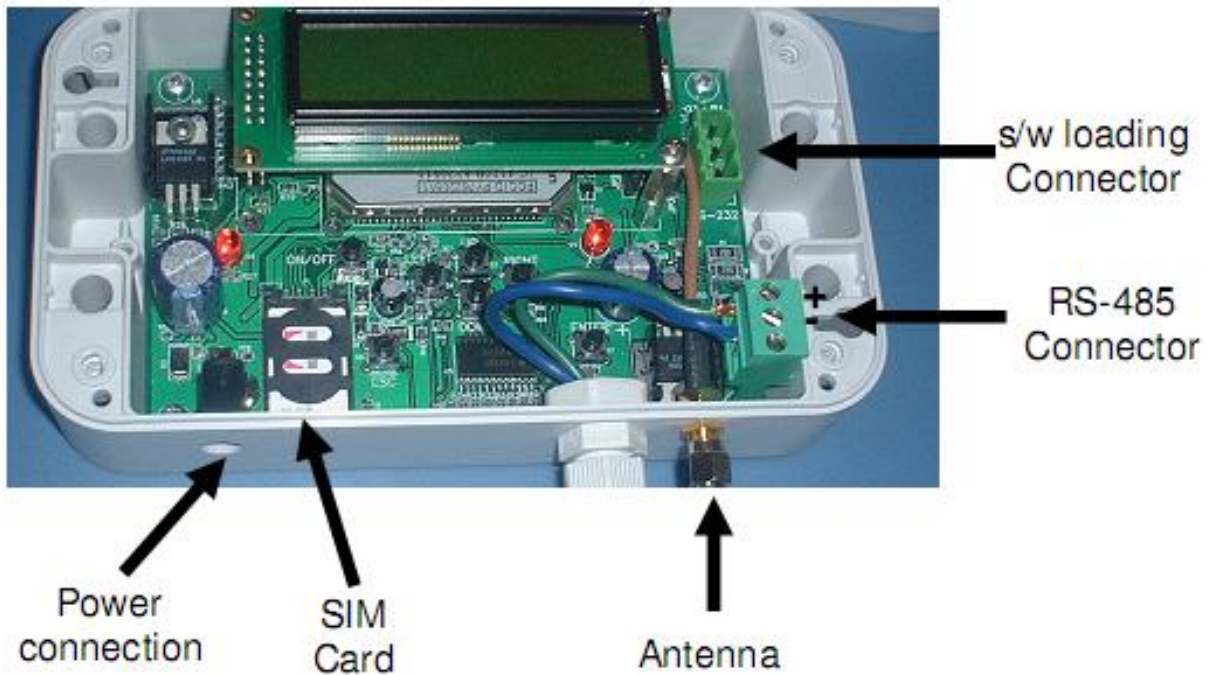

Figure 1: Water Guard Communicator - Internal Components
1. Remove the cover from the Water Guard Communicator. Figure 1 displays the main components inside the Water Guard communicator.